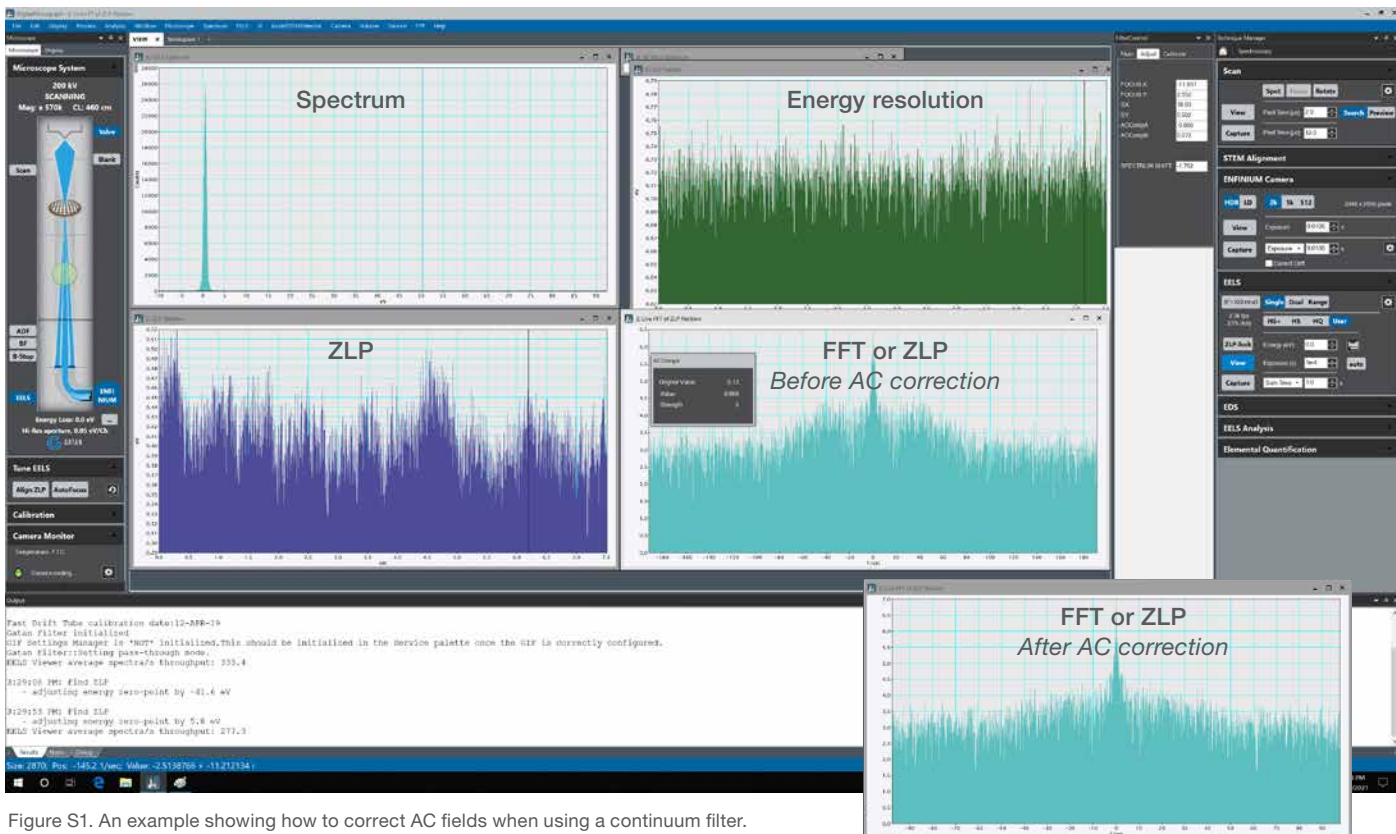

Figure S1. An example showing how to correct AC fields when using a continuum filter.
3. Make a live FFT of the ZLP position measurement (via Process > FFT > Live) and tune AC Comp until any "non-zero" frequency peaks diminish (Figure S1).